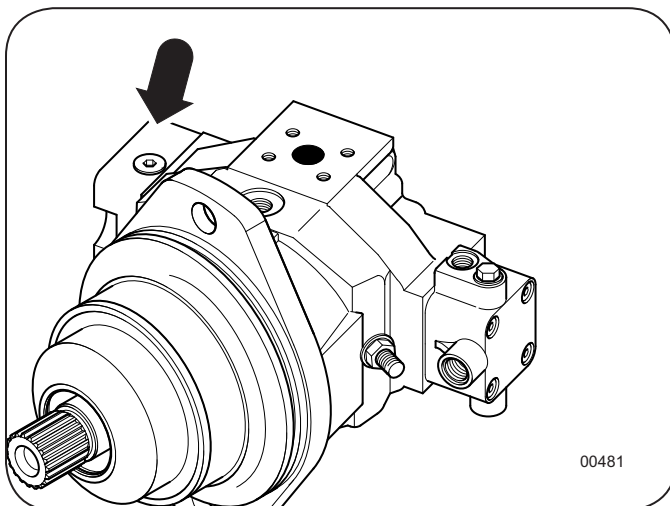

Figure 19: Drive Motor Port "X"
8. Disconnect the motor shift line where it enters port "X". See Figure 19. Plug the line and leave the fitting open to atmosphere.